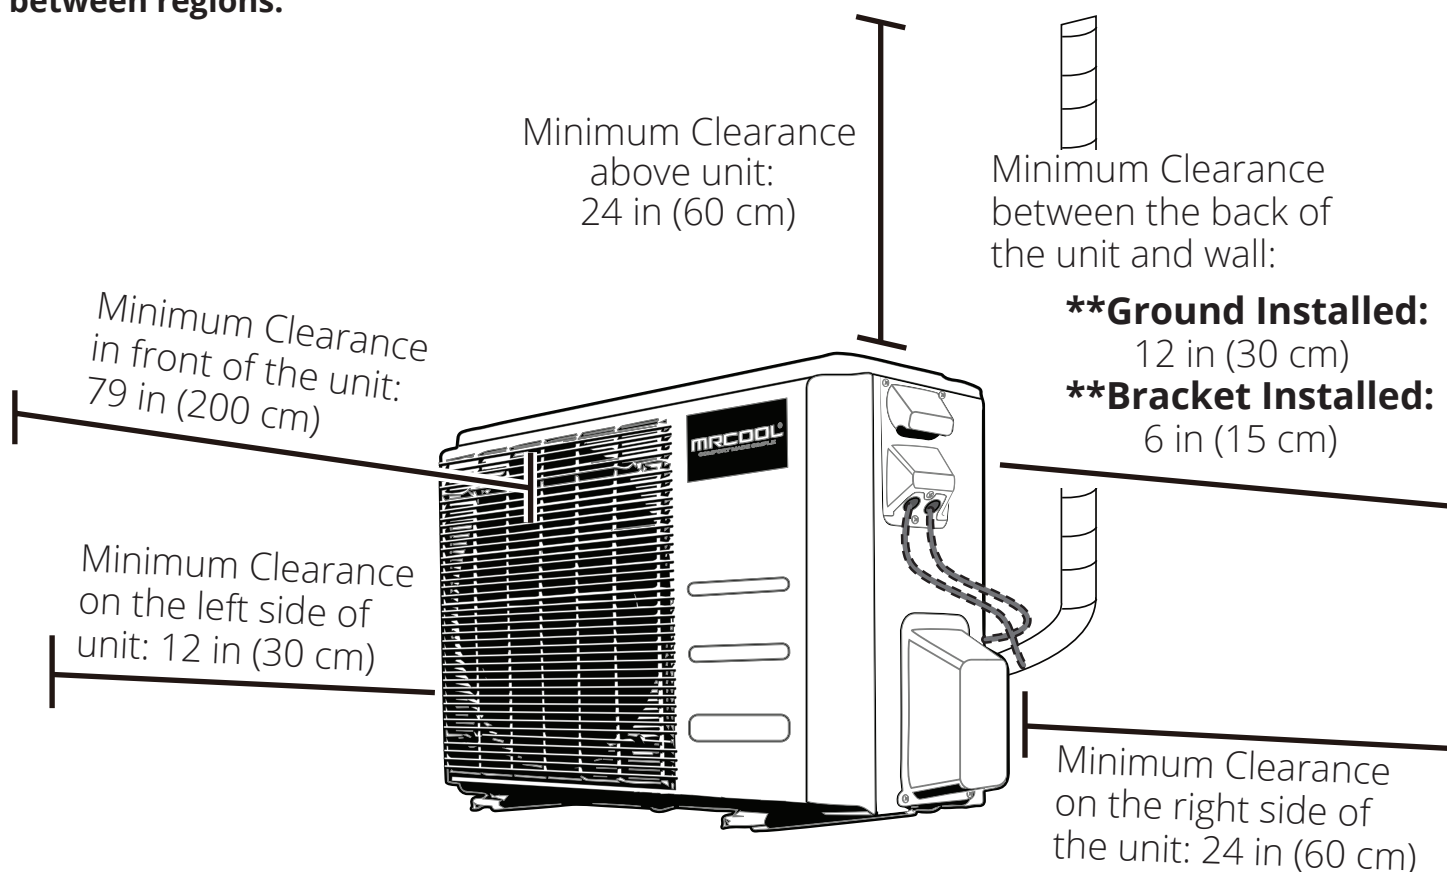

Fig. 6.1
- ☒ Meets all spatial requirements shown in the illustration above (Fig. 6.1)